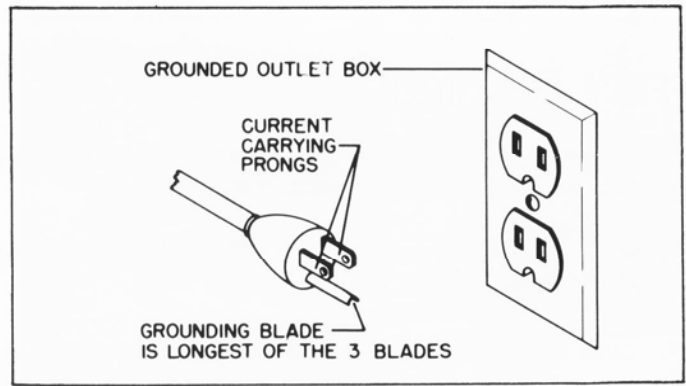

Fig. 15
**CAUTION:** This tool must be grounded while in use to protect the operator from electric shock. The motor is shipped wired for 115 Volt, Single Phase and is equipped with an approved 3-conductor cord and 3-prong grounding type plug to fit the proper grounding type receptacle, as shown in Fig. 15. The green conductor in the cord is the grounding wire. **CAUTION: Never connect the green wire to a live terminal.**